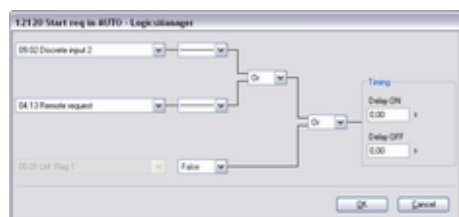

Fig. 225: LogicsManager function
2. ➤ Configure the LogicsManager 86.90 function [12120 Start req in AUTO] as shown in (Fig. 225) to start the generator in Automatic operating mode if discrete input [DI 02] ("09.02 Discrete input 2") is energized or a remote start request ("04.13 Remote request" = start via interface) is issued.